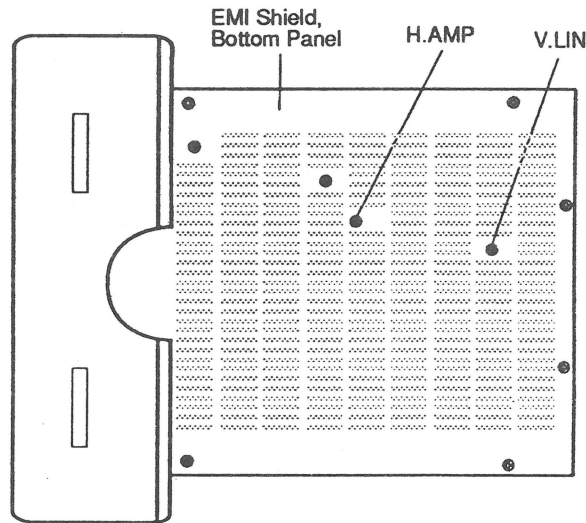

FIGURE 8
6. Using the insulated plastic screwdriver, turn the vertical linearity (V.LIN) control (**Figure 8**) until the boxes at the top of the display are the same size as those at the bottom. (With the monitor on its side, keep in mind that the top and bottom of the display are on your left and right.)
4. Using the insulated plastic screwdriver, turn the horizontal size (H.AMP) control (**Figure 8**) until the raster is 203 mm wide.